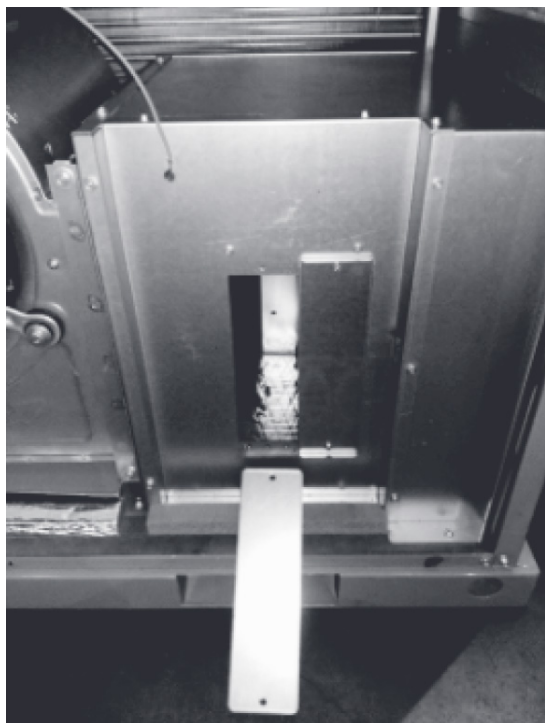

Figure 3.5 (For MHK05PB, MHK07PB, MHK10PB)
4. From blower plenum, remove two screws (four screws for MHK10PB, MHK15PB, MHK20PB) and cover plate that you can discard after heater is installed. (See Figures 3.5 & 3.6)